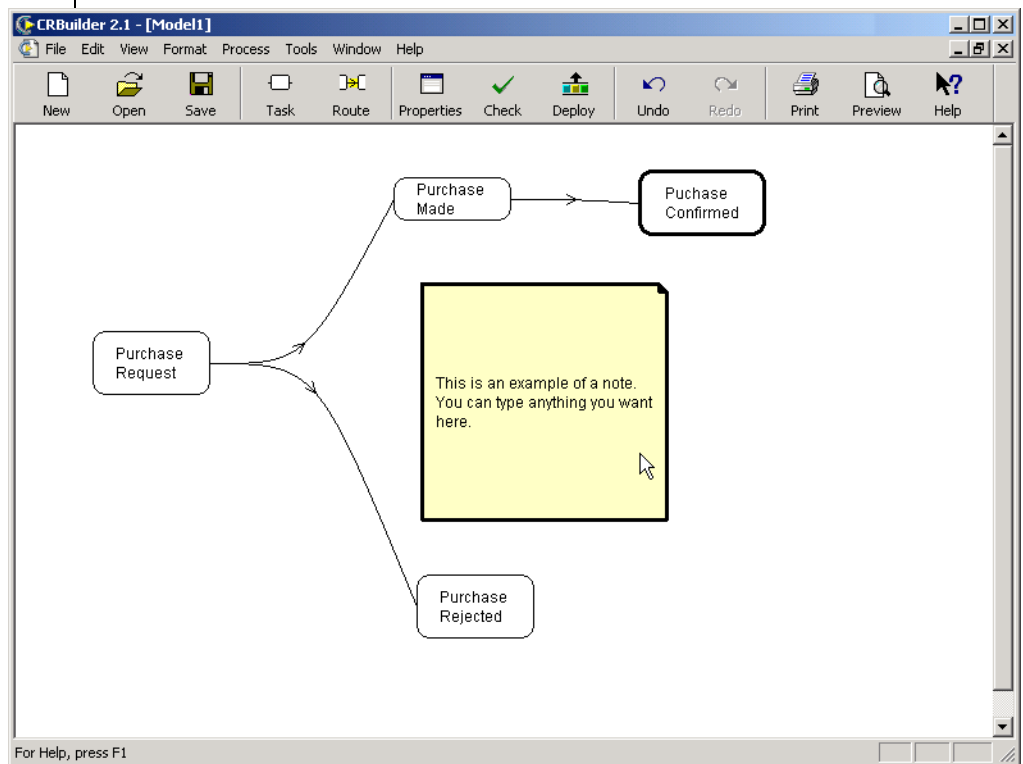

Figure 29-9. A CRbuilder process with an inserted note.
- ❶ With a model open, right-mouse click on any object in the CRbuilder process, and select **Add Note** from the drop-down menu.
- ❷ A text box appears. Type in your text and press **Enter** when you are finished.
- ❸ You can now drag the note anywhere in the modeler window (see Figure 29-9, below).